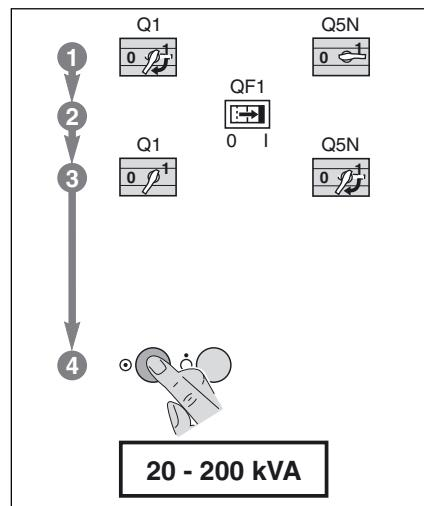

Fig. 21
See figure 21.
In addition to keypad operations, the graphical display brings up a window giving the overall device status. The message displayed is then said to be primary (see list in the paragraph below). A primary message can be used to access the measuring tables using keys ⑭, ⑮, ⑯ and ⑲ on the keypad (see figure 21 in the general appendix). The configuration screens can be accessed by pressing key ⑬. A flashing arrow appears at the end of a primary message if there is a problem or an alarm; secondary messages can be accessed by pressing key ⑩ on the keypad (see the list of secondary messages). The presence of another message is indicated by the arrows ↓ and ↑ at the end of the secondary message. They can be accessed by pressing keys ⑩ and ⑪ on the keypad. The return to the primary message is automatic after a 2 minute time delay or by pressing key ⑯ on the keypad.